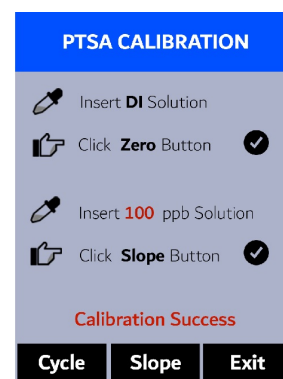

Figure 12.
11. If the calibration succeeds, a checkmark (**✓**), a “**Calibration Success**” message will appear (Figure 12). Otherwise, a warning message is displayed.